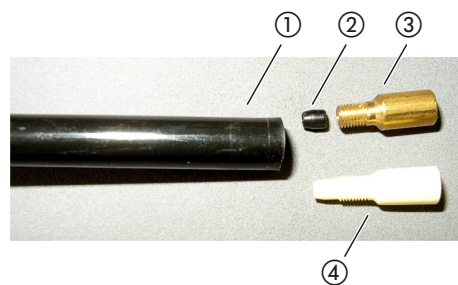

Fig. 6: Capillary filter
- ① Sniffer probe end
- ② Plugwasher
- ③ Metal capillary filter
- ④ Plastic capillary filter
- 3 Insert the plugwasher, see fig. 6 on page 19.